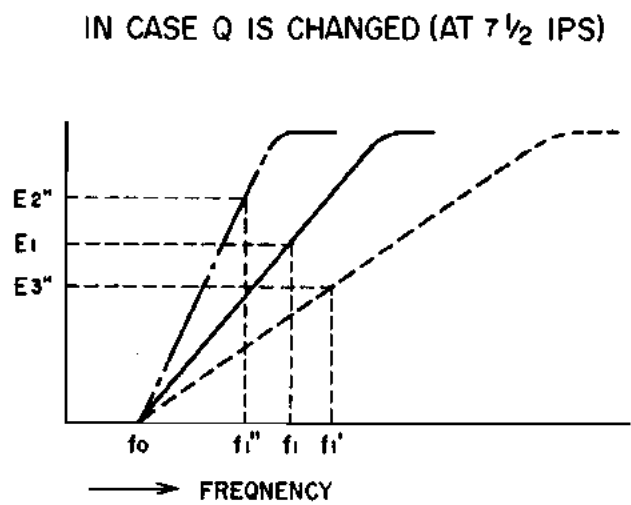
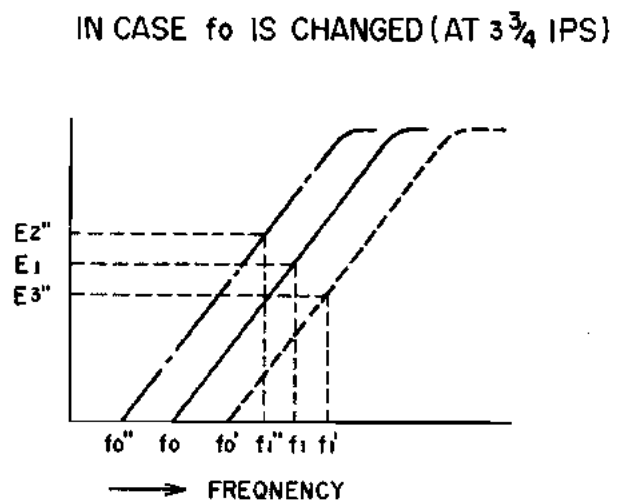

Fig. 11
Fig. 12
- 7) In order for n_1 to meet specified revolutions, it is necessary to adjust E_1 . f_0 is changed by adjusting L-201 dust core (See Fig. 12), Q of resonance circuit is changed by adjusting VR-202, and as shown in Fig. 11, the rise-up angle of S curve is altered.